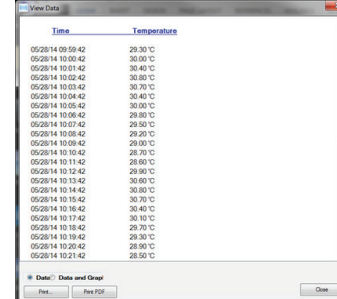

FIGURE 17
- 3.2.1. View recorded data only, see Fig. 17